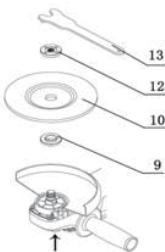
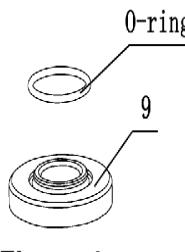

Figure 3
Figure 4
3)Fitting the grinding disc or cutting disc: (Figure 3 and Figure 4)
A.Place the inner flange (9) over the spindle making sure the fit is tight;